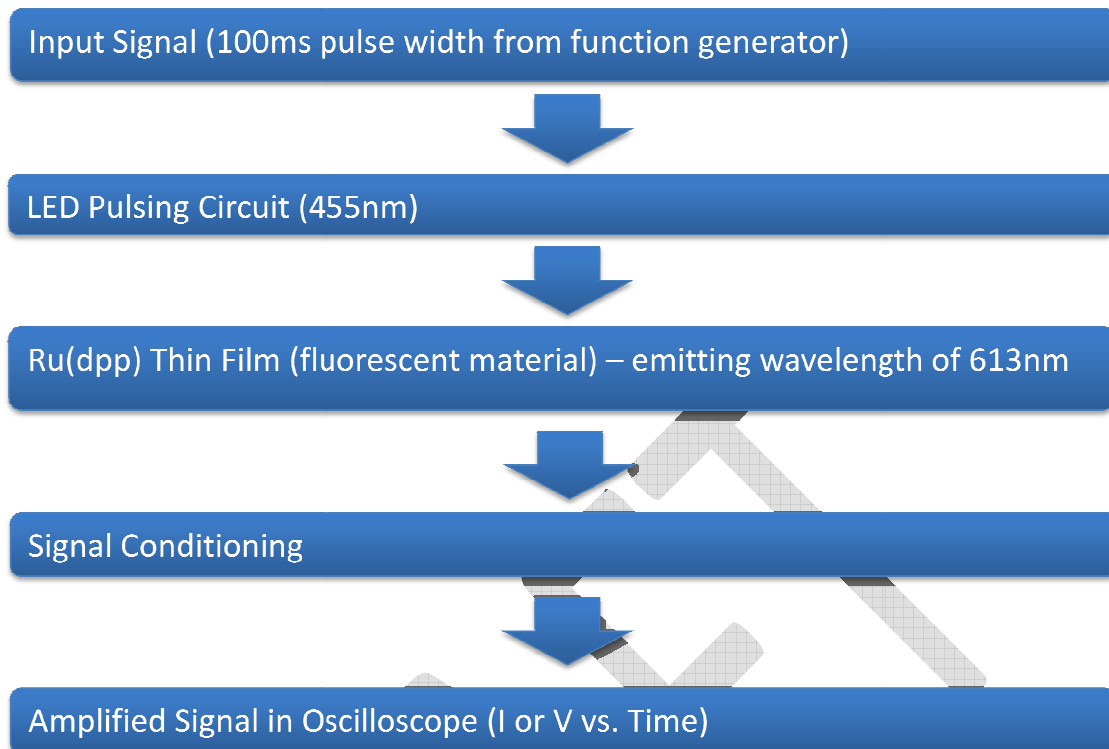

Figure 1- Operational block diagram of the Oxygen Gas Sensor
1.4.1. Figure 1 below shows the high-level block diagram of the operation behind the oxygen gas sensor.